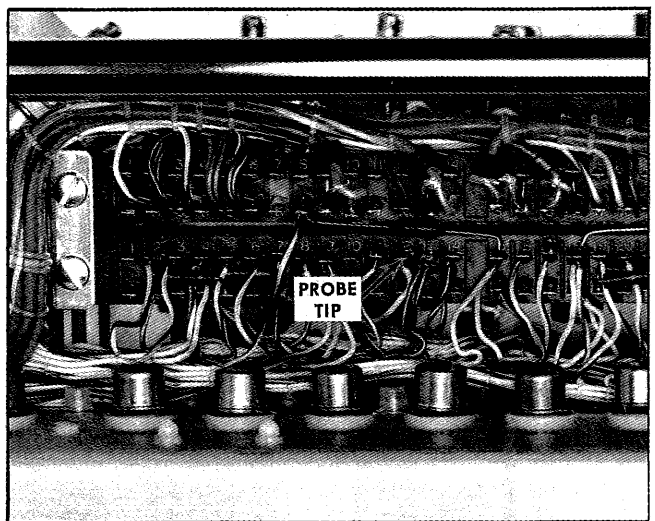

Fig. 5-17. Probe tip location at J53-12, Step 8 c.
c. Carefully touch the probe tip to J53-12 (Logic Card connector pin 12 shown in Fig. 5-17). Set the Type W Input Selector to DC and adjust the INVERT IN ZERO control for zero volts—zero trace shift on the test oscilloscope.